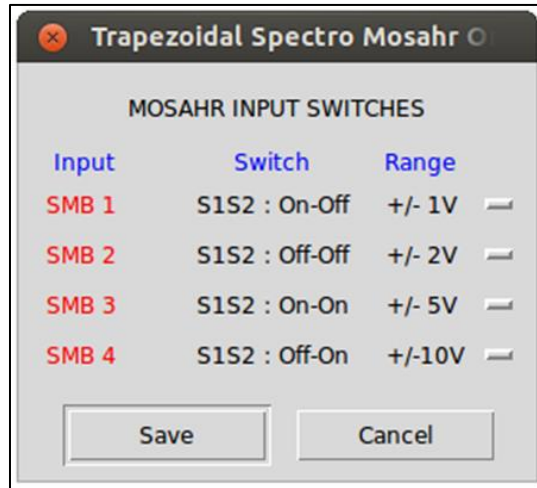

Figure 16: fullscale range interface for MOSAHR daughter board.
The MOSAHR daughter board has four input channel called SMB 1 to SMB 4. Each FASTER Trapezoidal-Spectro MnM in the FPGA can be linked with any SMB. Each SMB channel can have a different input fullscale range from $\pm 1V$ to $\pm 10V$, set by four mechanical switches on the daughter board. By clicking on “Range switches match” ②, a new interface is launched (cf. Figure 16), the user has to match the fullscale range of the oscilloscope display with the real electronical fullscale range.